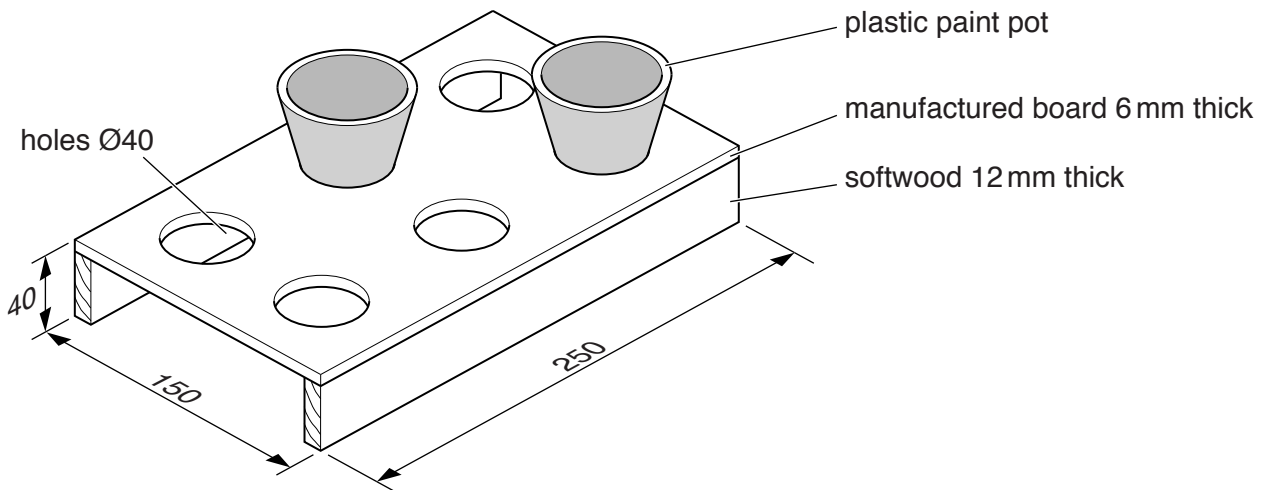
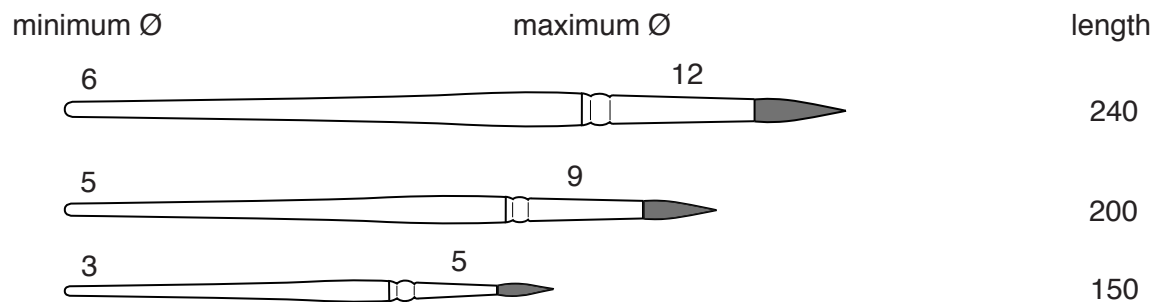

Fig. 13
Fig. 14
(c) Fig. 13 shows a holder used when mixing paints.
- (d) Fig. 14 shows three paintbrushes that will be stored with the holder shown in Fig. 13.